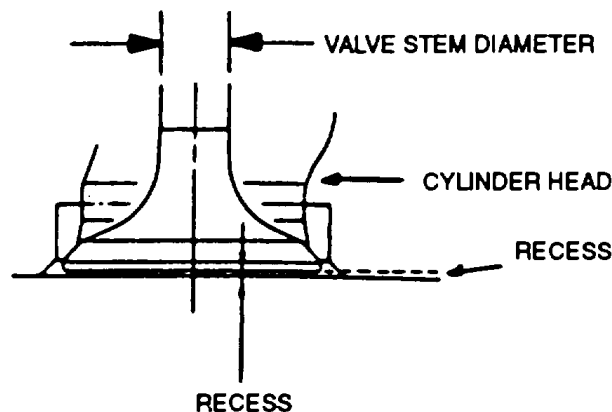

Figure 6-3. Valve Recess
- (1) Clean cylinder head and valves with a clean cloth dampened with diesel fuel. Use wire brush where necessary and dry with compressed air.
- (2) Inspect cylinder head for cracks, corrosion, or excessive heat damage.
- (3) Inspect valve heads and valve stems for cracks, pitting, scratches, warpage, or any other damage.
- (Refer to Figure 6-3)
- (4) Check that each valve stem diameter is greater than 0.2126 inch (5.40 mm).
- (5) Reinsert valves into the cylinder head and check that each valve recess is less than 0.043 inch (1.1 mm).
- (6) Check that the inside diameter of each valve guide should be between 0.2126 inch (5.40 mm) and 0.2197 inch (5.58 mm).
- (7) Clean off carbon deposits on the valve seats since carbon buildup, excessive wear, and corrosion can cause compression leaks.